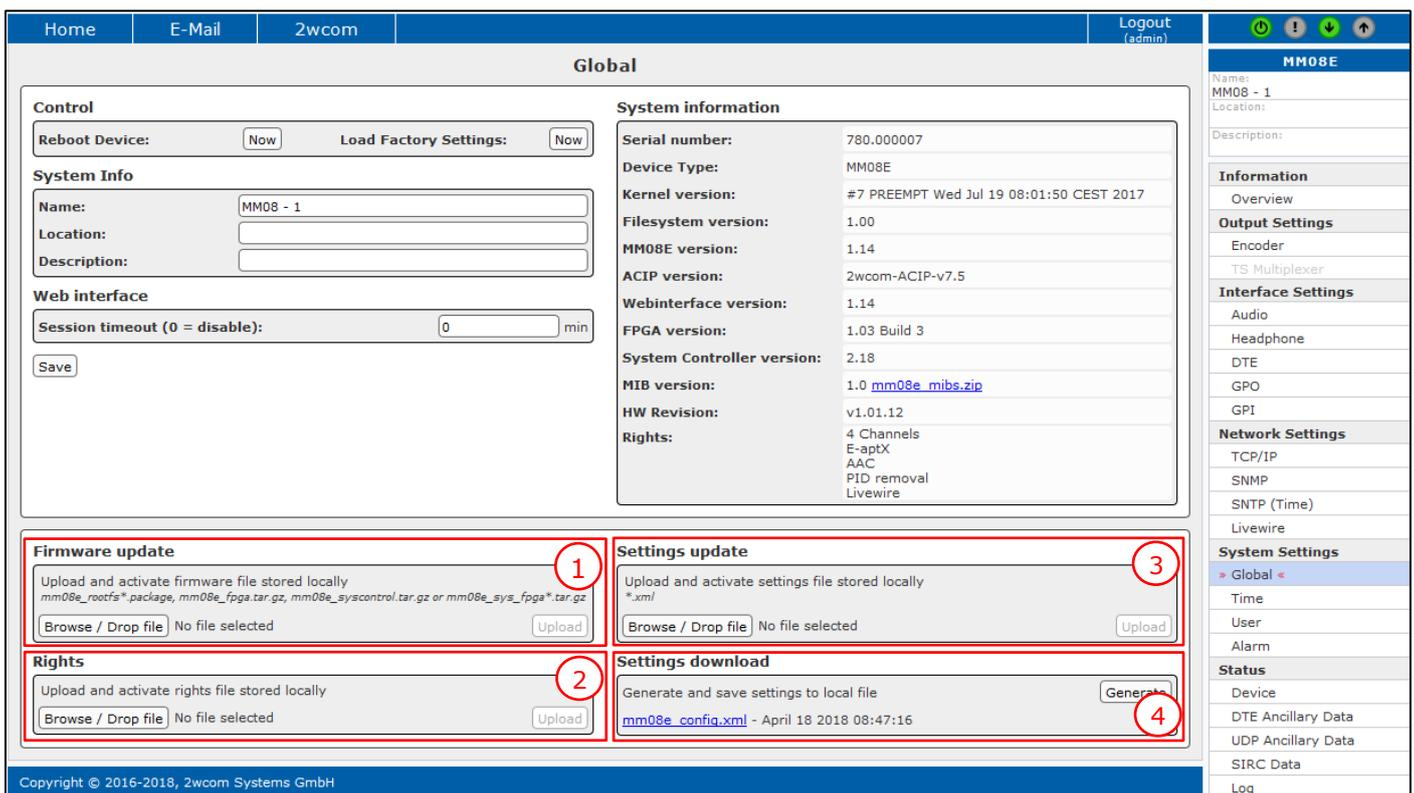

Figure 38: System Settings - Global
1. Open the window *Global* under **System Settings**→**Global** (see Figure 38 on page 51).
2. Click the Browse button in the **Rights** field (see #2 in Figure 38 on page 51). The "Open file" dialog of your system software will be displayed.
2. Click the Browse button in the **Settings update** field (see #3 in Figure 38 on page 51). The “Open file” dialog of your system software will be displayed.
2. Click the „Generate“ button in the **Settings download** field to start the generation of a settings file (see #4 in Figure 38 on page 51).
2. Click the Browse button in the **Firmware update** field (see #1 in Figure 38 on page 51). The “Open file” dialog of your system software will be displayed.